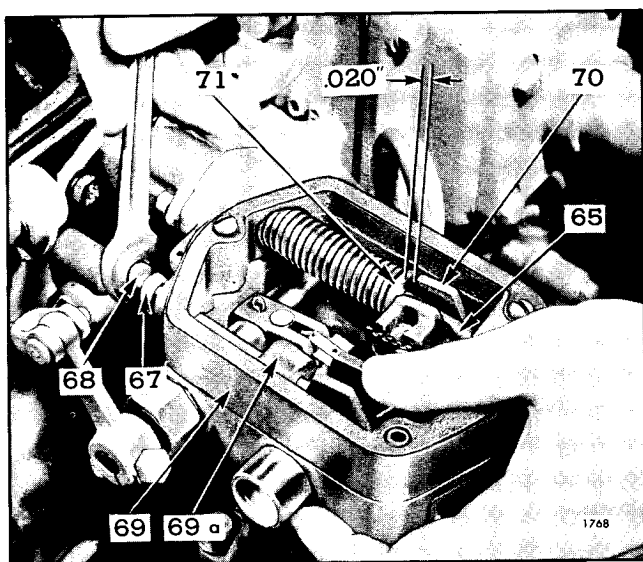

Fig. 3 - Setting Maximum Fuel Adjusting Screw (Load Limit)
1. Place fuel rod (65) and terminal lever (70) in the FULL FUEL position as shown in Fig. 3.
2. Loosen lock nut (67). Turn adjusting screw (68) until a .020" space exists between the fuel rod collar (71) and the terminal lever (70). Hold screw and tighten lock nut.